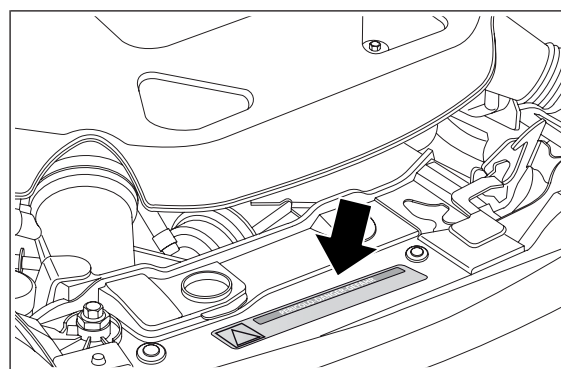

fig. 67
**Before opening the bonnet, make sure that the engine is off and that the ignition key is in the STOP position. Follow the instructions on the dedicated label on the front crossmember fig. 67. We recommend that you remove the key from the ignition if other people remain in the vehicle. Exit from the car only after having removed the ignition key or having rotated it to the STOP position. During refuelling, make sure that the engine is off and that the ignition key is in the STOP position.**